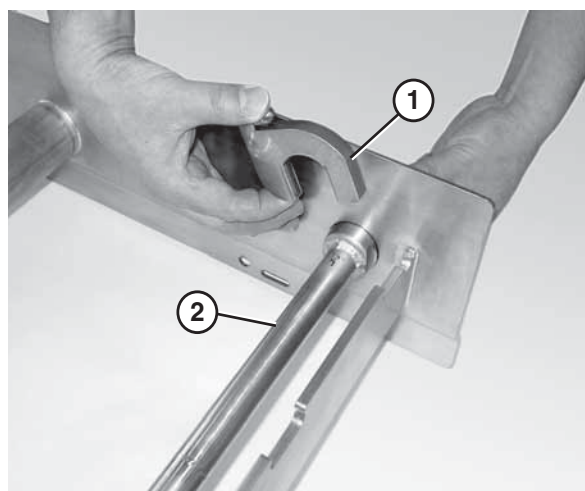

Figure 19
2. Attach the key stops (**Figure 19, item 1**) to the tip up shaft (**Figure 19, item 2**). The rounded end of the key stop should face the tail.